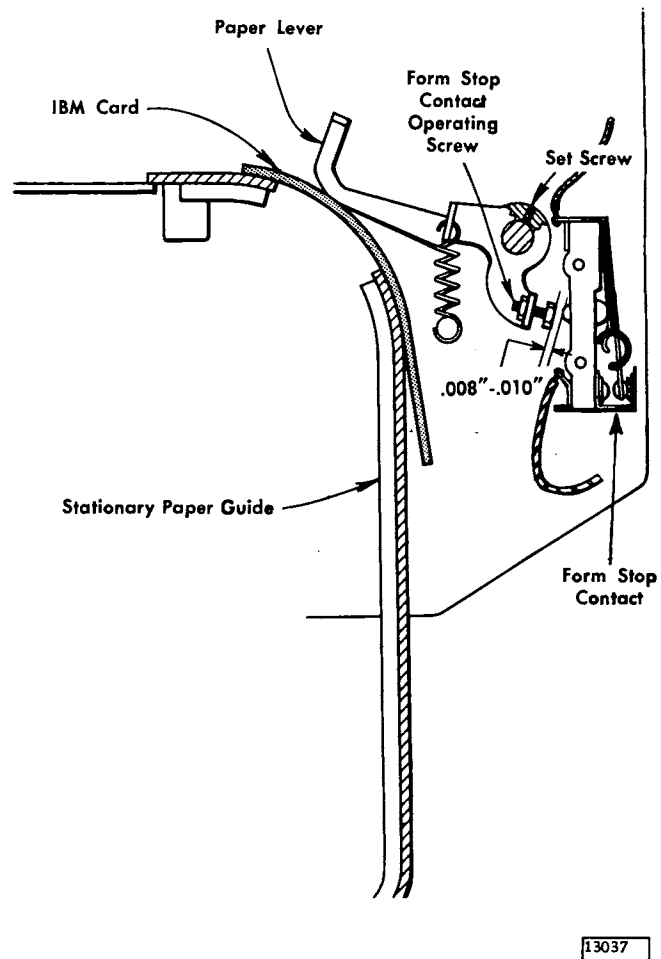

Figure 4-18. Form Stop Contact
1. Center the paper lever over the slot in the form guide (Figure 4-18).